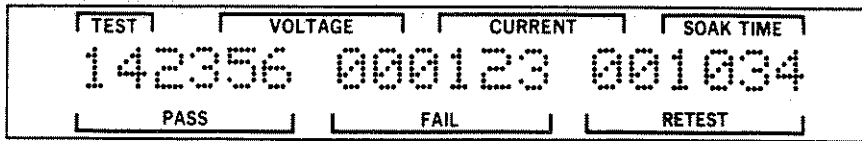

Figure 3-70. Bin Count Totals Screen
STEP 1. With the 5300 in the Set mode (access keyswitch in the SET position and SET LED illuminated), press the DOWN pushbutton until the Bin Count Totals screen is displayed. Refer to Figure 3-70.